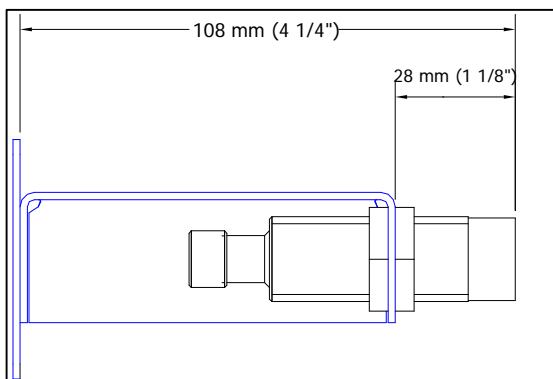

Figure 7.70
5. Install the sensor to the bracket. Refer to the dimensions in Figure 7.70.